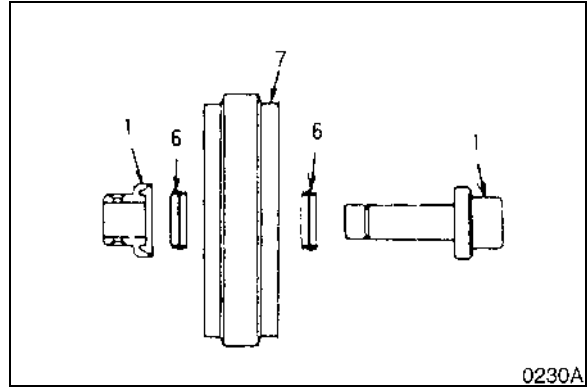

Figure 27
4. Install group seal (6, Figure 27) inside the idler (7) and bearing (1).